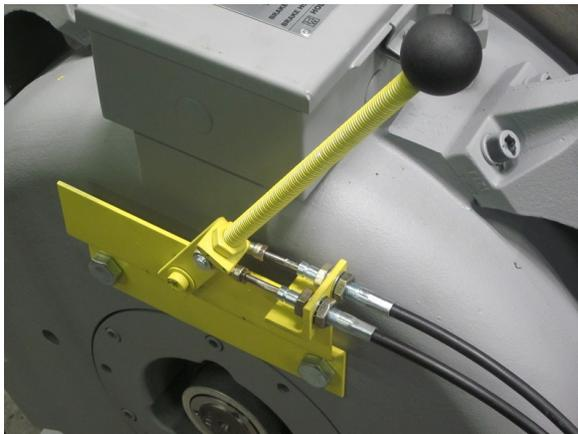

Figure 14: left is for Mayr #6 and #8, right is for Mayr #10
- Figure 14 shows the manual brake release handle fully assembled and Figure 15 shows the handle removed. (Brake handle mounting plate attached to back of machine for display only)